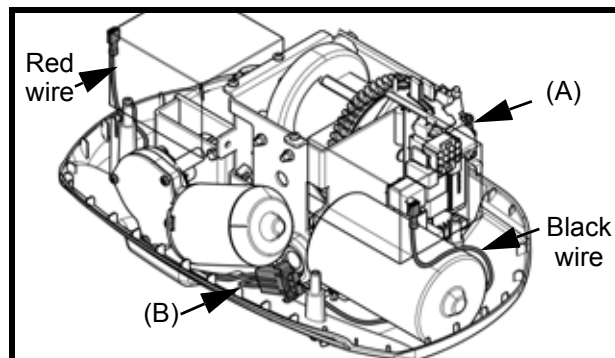

Fig. 47
- 2) Locate the fuse and replace it with the same type and amperage (see Fig. 47).
- Unit equipped with PCB 492.XXX35: Fuse is located on the PCB (A).
- Unit equipped with PCB 499.XXX72: Fuse is located inside a fuse holder connected between the two batteries (B).